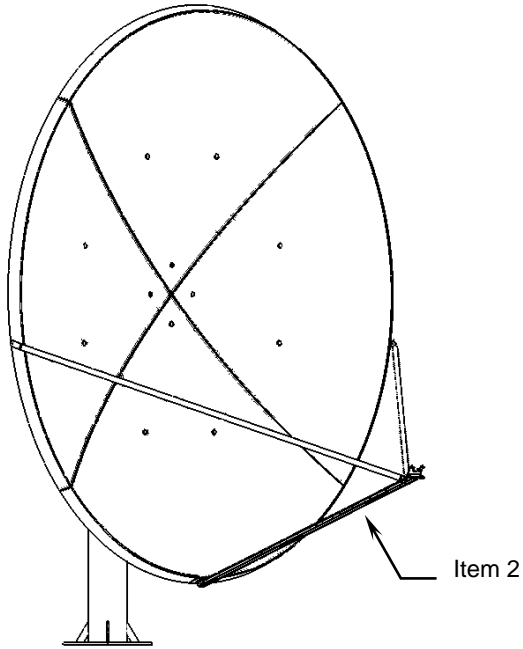
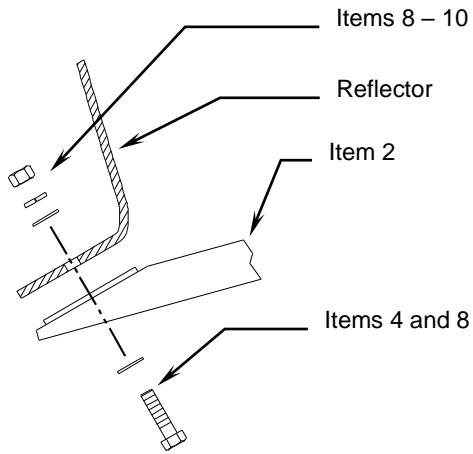

Figure 27: Feed Support Reflector Assembly
Figure 28: Feed Support Reflector Detail
3. Mount the other end of the feed support along to the bottom of the reflector with 3/8" hardware (items 4, 8, 9, 10). See Figure 27, Feed Support Reflector Assembly. See Figure 28, Feed Support Reflector Detail.